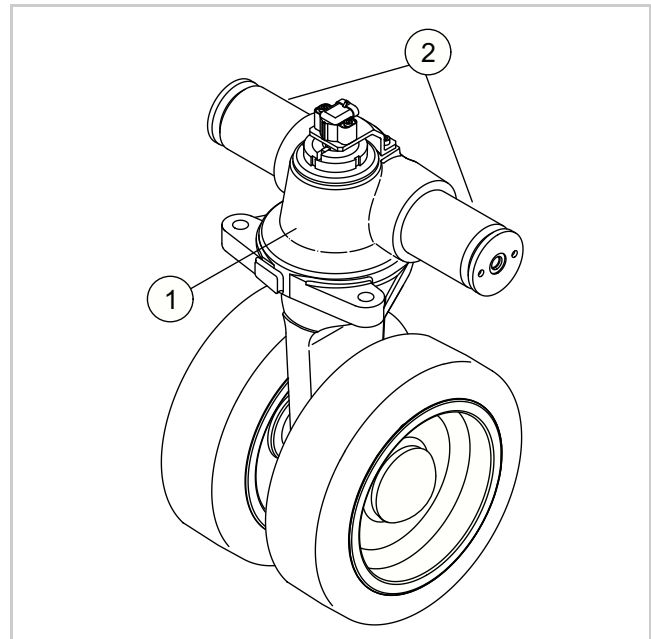

Fig. 20 (30025)
6. See Figure 20. Remove the hydraulic line from the cylinder (2).
8. Using a spanner wrench, remove the cylinder (2) from the housing (1).